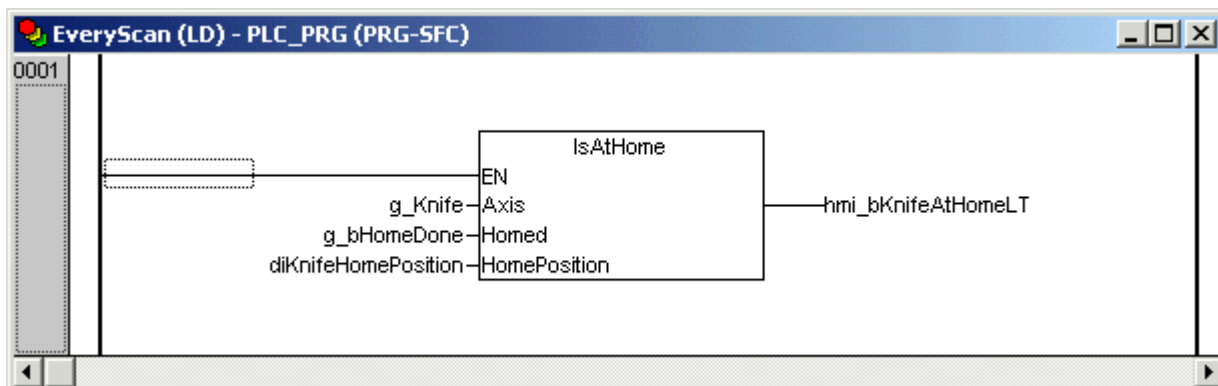

Figure 35, EveryScan Action
- Add the rung shown in Figure 35.